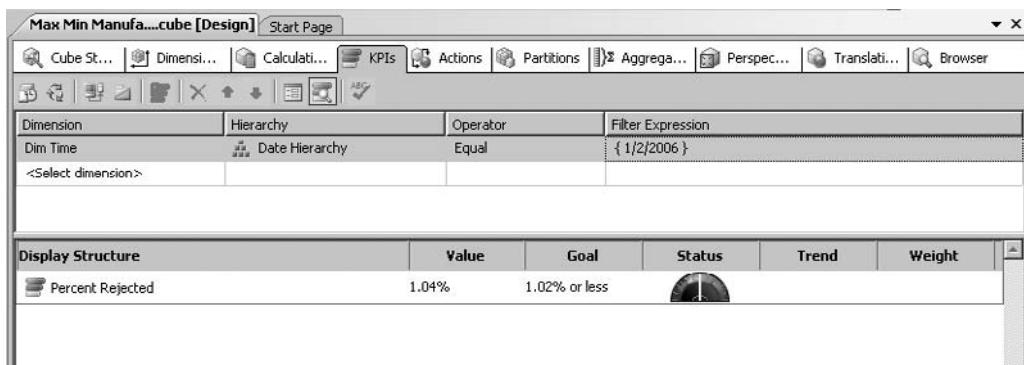

Figure 10-24 The KPI browser with the Percent Rejected KPI for January 2, 2006
18. Click anywhere on the KPI browser so the Filter Expression cell loses focus. This causes the KPI to refresh. The KPI browser now has a value of 1.04 percent, which translates to a status of Fair (straight up in the yellow), as shown in Figure 10-24.